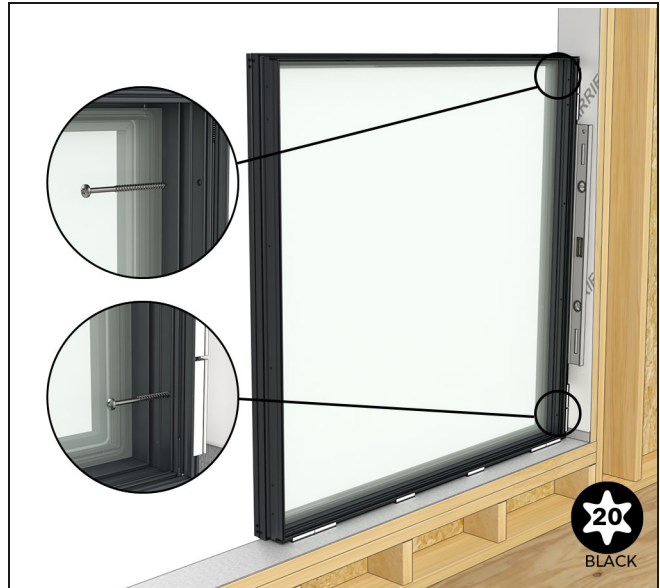

Figure 113
6. Set the first assembly (B1) in place in the opening. Square, plumb, and pin the jamb. See Figure 113.